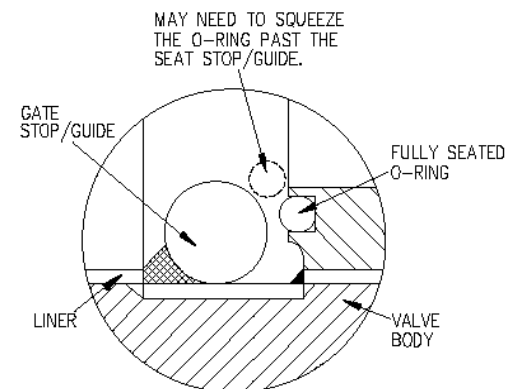

Figure 2
5. While installing the seat O-ring, make sure it does not twist. Firmly press the O-ring into the groove. Added effort may be needed to fit the O-ring near the gate stoppers (blade guides) as shown in Figure 2. Be sure the O-ring is fully seated.